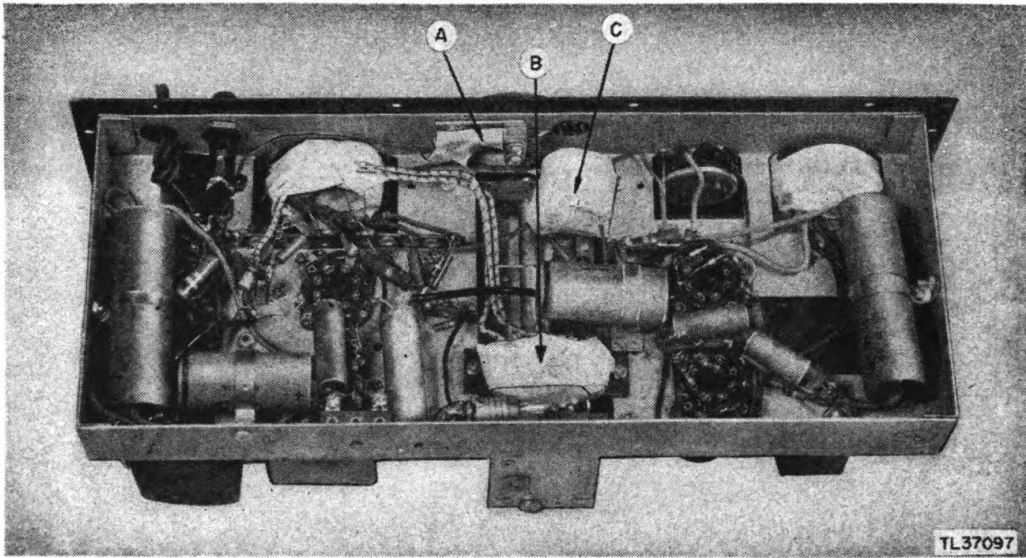

Figure 7. Bottom of chassis showing masking details.
(d) Plates and rotor contacts on the calibration adjustment capacitor, item C, figure 7.
(e) Three (3) capacitors under tuning capacitor gang, item B, figure 7.
(f) Contacts on the calibration key switch, item A, figure 7.